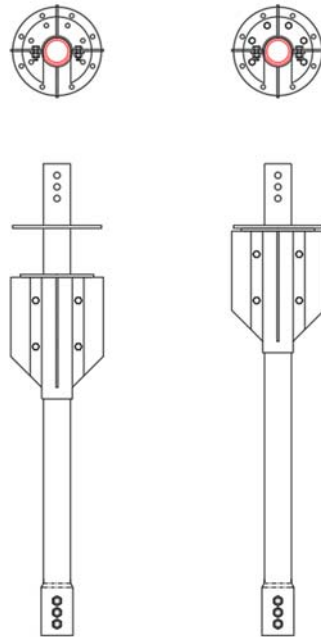

Figure 1. Proposed Tapered Collar Vane on HP.
- P-Y models adapted to consider CV technology (Figure 1) installed at the top of HPs to increase lateral resistance. This analysis is being used to inform load requirements for hydraulic jacks and instrumentation requirements for field testing.
- HP and CV manufacturing by Hubbell process has started and the initial design is illustrated in Figure 1.